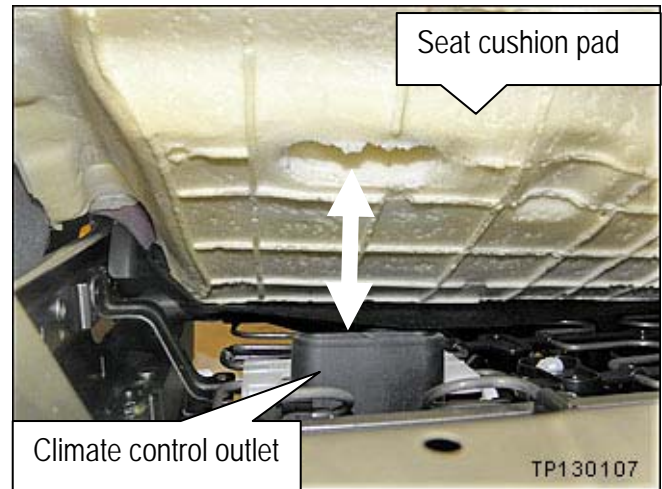

Figure 25
- Refer back to Figure 25 if needed.